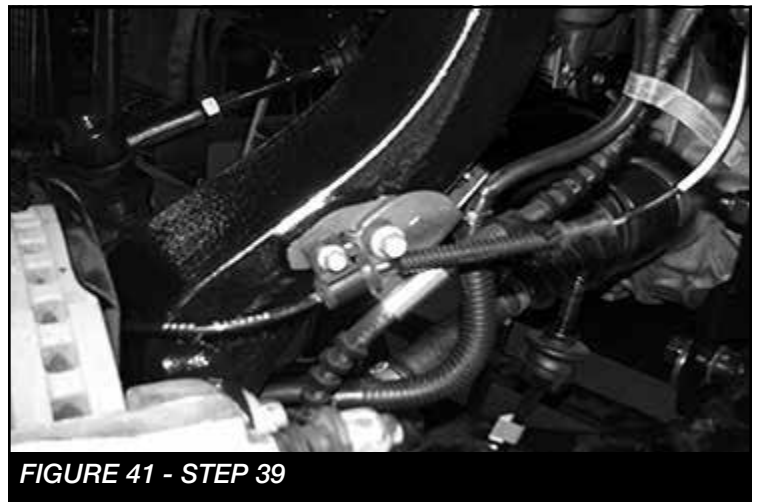

**FIGURE 39 - STEP 38**
38. Install the dust shield and torque to 14 ft-lbs. Install CV shaft nut and torque to 35 ft-lbs. Install the factory dust cover. **SEE FIGURE 39**